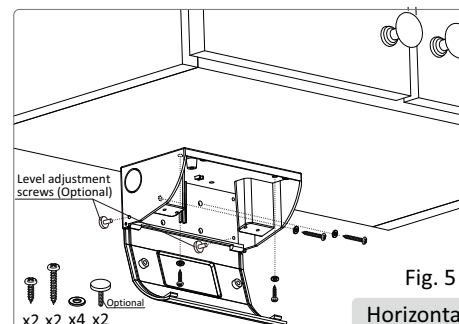
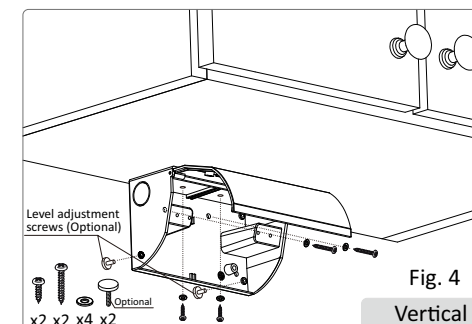

Fig. 5
Fig. 4
1. Select either horizontal (Fig. 4) or vertical (Fig. 5) mounting orientation that suits your needs.